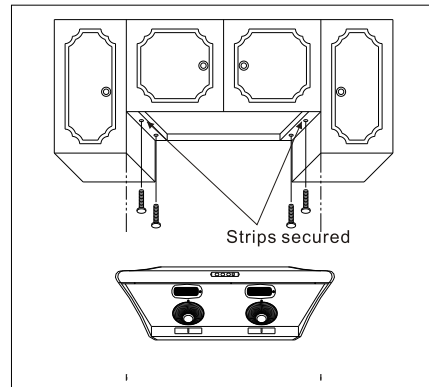

Fig.7
- c. Position the strips on the cabinet bottom and screw the strips securely to the cabinet (Fig.7)
- a. The four keyhole mounting slots for the hood. Mark these onto the bottom of the cabinet; or, if the cabinet bottom is recessed. Onto the wood strips (Fig.7)
4. Screw the four 1" wood screws (for mounting the hood) into the exact center of the arrow and of the keyhole mounting slots marked on the cabinet bottom (for flush installations), or marked on the 1"x2" wood strips (for recessed cabinet installation) (Fig.7)